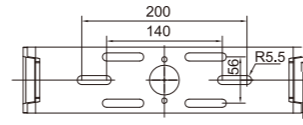

Fig. 1
- Secure the wall/ceiling/floor mounting bracket to the structure by using screws (not provided). (Figure 1)